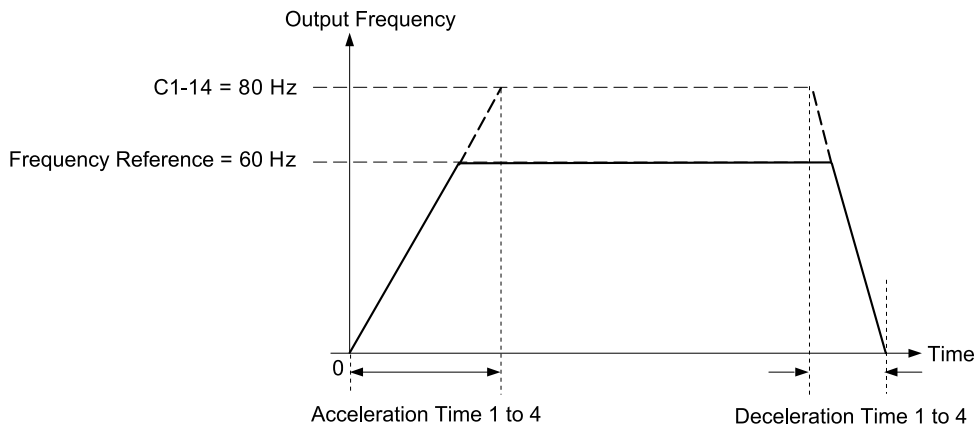

**Figure 12.47 Example 1: Acceleration/Deceleration Rate (When C1-14 = 0 Hz, E1-04 = 60 Hz, and the Frequency Reference is 60 Hz)**
- Figure 12.47 to Figure 12.49 show the accel/decel times when C2-01 to C2-04 [S-Curve Times @ Start/End of Accel/Decel] = 0.00 s.